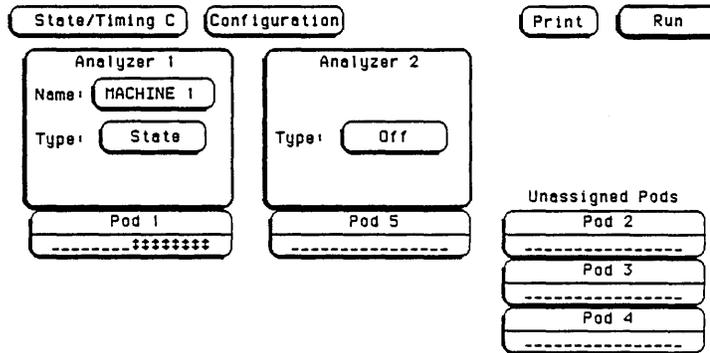

Figure 3-4. Configuration Screen
3. Assign the pod under test to Analyzer 1 in the Configuration screen as in figure 3-4. Refer to steps a and b if unfamiliar with menus.
- Assign the pod under test to Analyzer 1 in the Configuration screen as in previous test figure 3-4.
- Assign the pods under test to Analyzer 1 in the Configuration screen as in previous test figure 3-4.